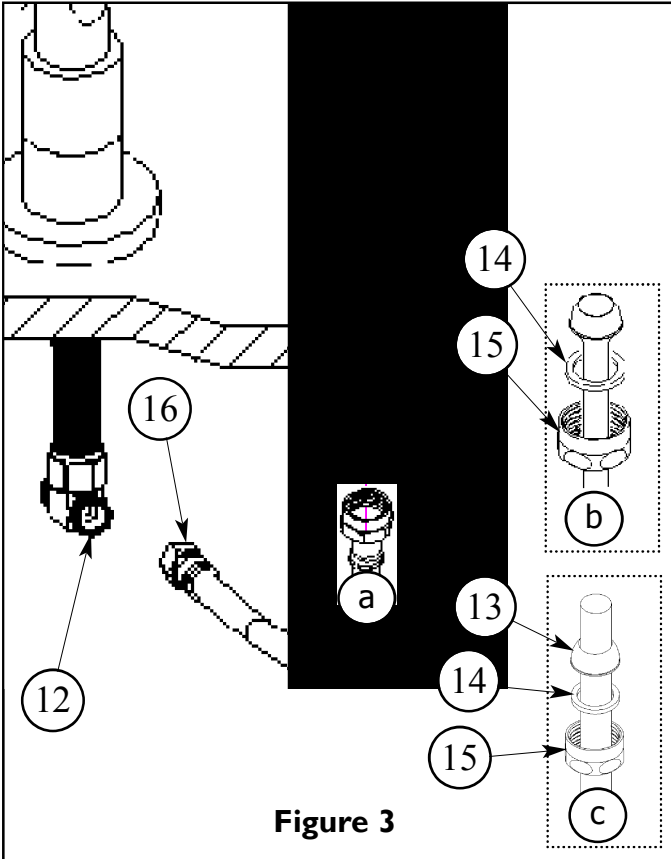
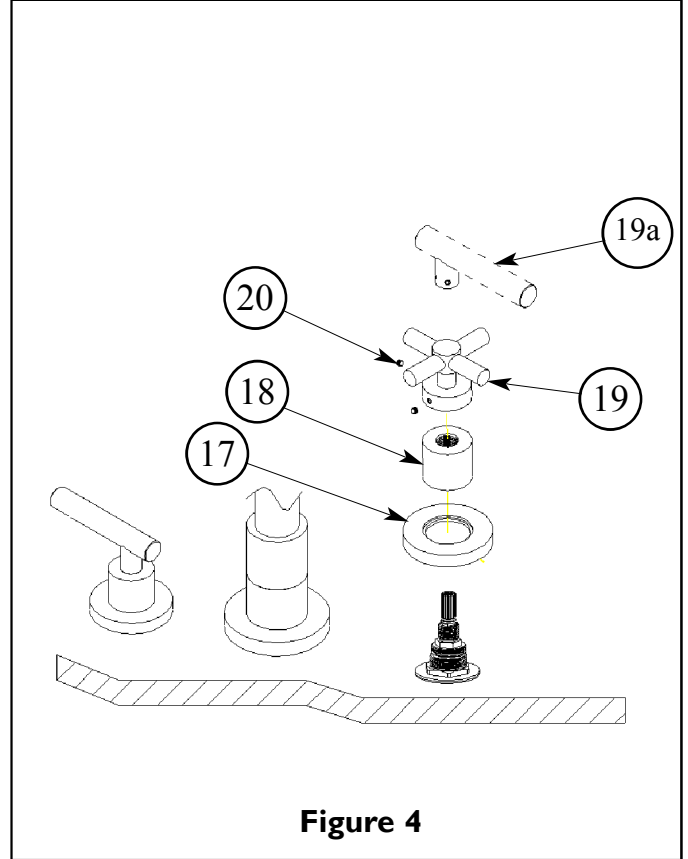

Figure 3
Figure 4
4. Connect large end of flexible HOSE (16) to side outlet of each valve BODY (10). Attach other end of HOSE (16) to either side of the TEE (12). (Hand-tighten and secure each connection with a wrench ¼ turn.) See Figure 3.
5. Connect hot/cold water supply to appropriate 1/2" NPSM valve BODY (10), utilizing one of the three following types of risers. Supply risers not included. See Figure 3.
- a. 1/2" IPS flexible riser: discard rubber nosecone WASHER (13), friction WASHER (14) and coupling NUT (15).
- b. 3/8" or 1/2" OD bullnose riser: utilize friction WASHER (14) and coupling NUT (15).
- c. 1/2" copper riser: utilize rubber nosecone WASHER (13), friction WASHER (14) and coupling NUT (15).
6. Thread ESCUTCHEON (17) and BONNET (18) onto valve. Any adjustments for rotational alignment must be made to the valve body - not to the cartridge. (Note: Allow minimum spacing between HANDLE (19, 19a) and BONNET (18) to prevent damage to the surface finish.) Attach HANDLE (19, 19a) and secure into place with SETSCREW (20). See Figure 4.
7. Remove AERATOR (21) from SPOUT (1), turn on water supply, and flush both valves until water is clear. Check for leaks and make any final adjustments required. Re-attach AERATOR (21) to the SPOUT (1).